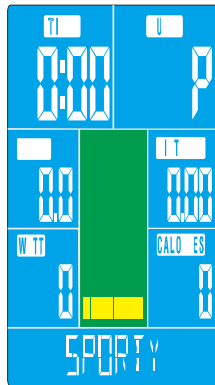
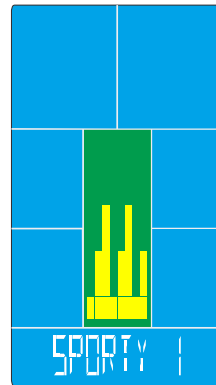

FIGURE 13
FIGURE 14
- If select SPORTY function (figure13), press MODE confirm to next step. Set SPORTY 1~4 (figure14), press UP/DOWN to select SPORTY 1, and press MODE to confirm entering this mode, you can press UP/DOWN button to adjust and set TIME or directly press START button to start workout. After START, press UP and DOWN buttons to adjust motor LOAD. When the graph is executed to the ninth STEP, it is shifted to the left by the scroll bar, and so on.